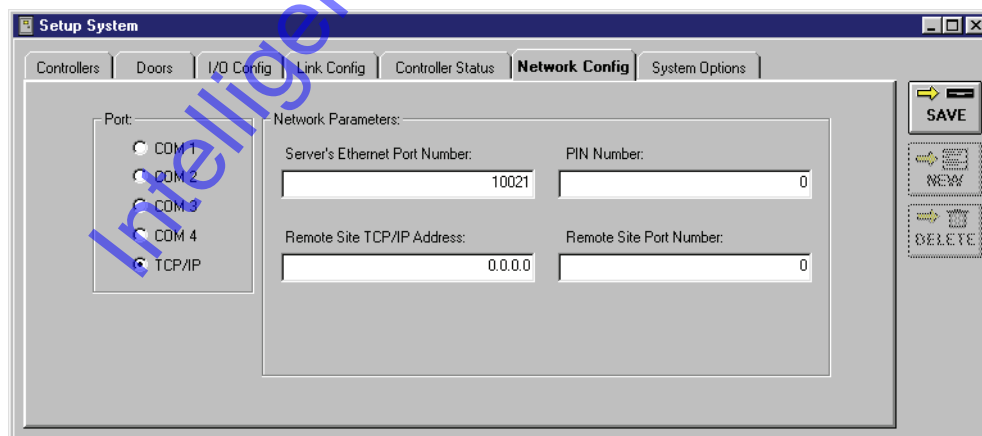

Figure 2-4: Network Configuration Tab With TCP/IP Selected
- Click on the **TCP/IP** radio button. The Network Configuration window will add new fields for configuring the LAN-100 (see Figure 2-4).